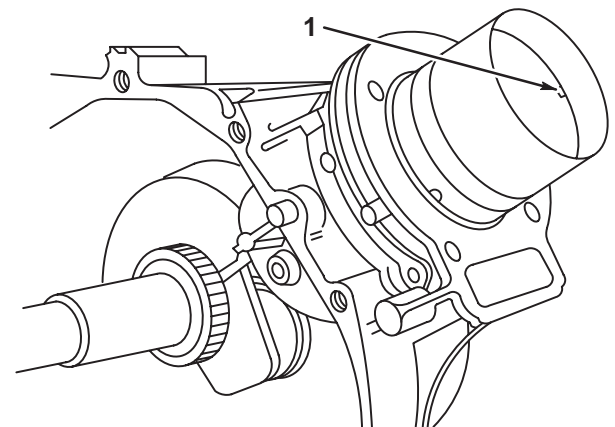

Fig. 128 – Installing Piston Assembly
3. Install piston with notch or arrow toward flywheel side of engine, Fig. 128, taking care not to damage crankpin journal or connecting rod journal, when installing.